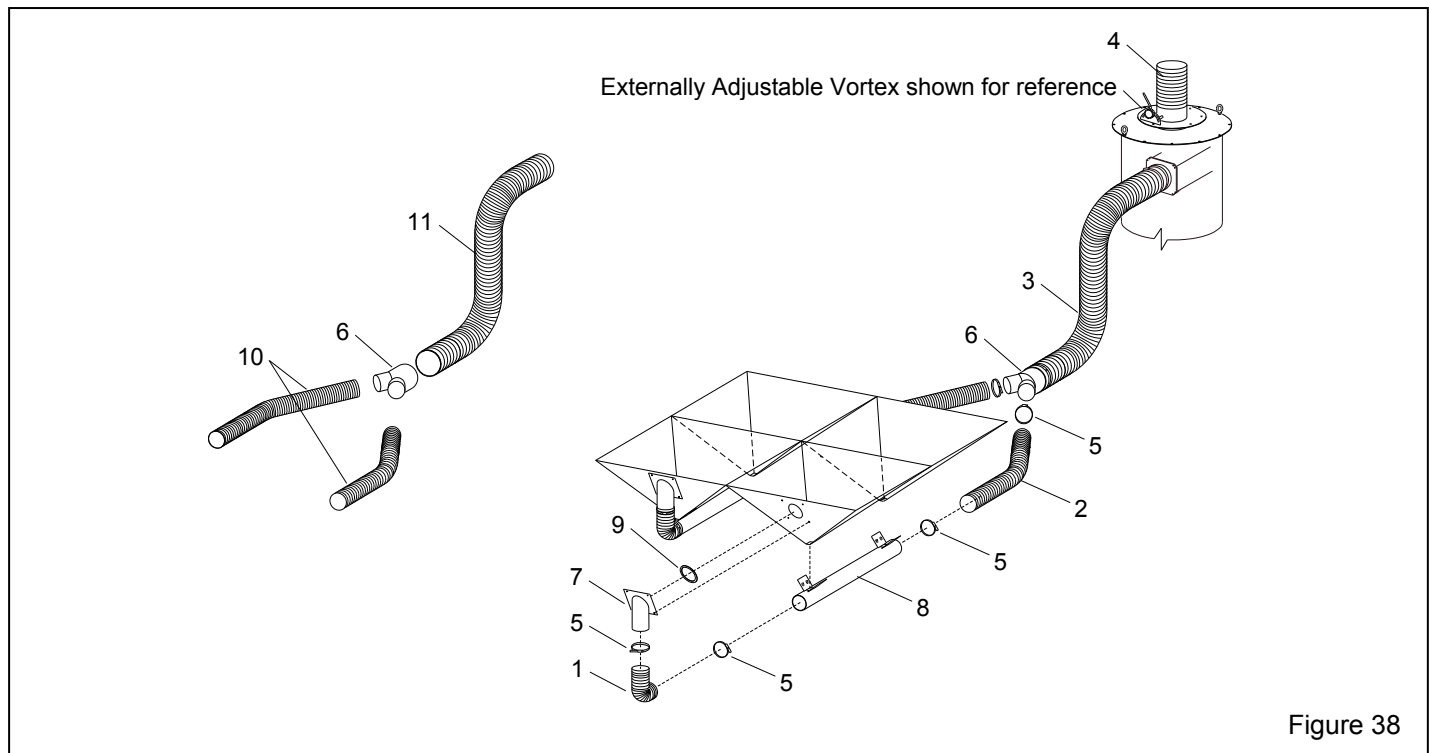

Figure 38
9.9 Flex Hose, Pipe, and Adaptors, Figure 38